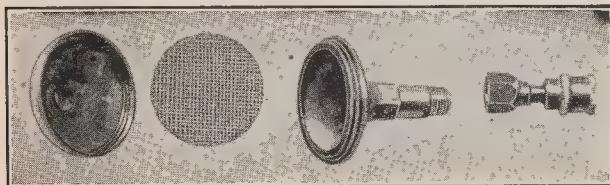
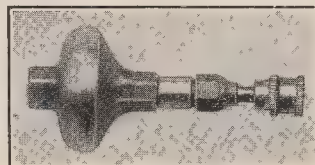

Fig. 227
Fig. 226
**The Strainer Attachment,—Fig. 226.** Here we show a very valuable and important attachment for applying to the nozzles of our sprayer. It makes no difference what crops are being sprayed, the attachment is equally valuable as it strains all the solution and prevents the particles of dirt from stopping the flow. In Fig. 227, we show the strainer together with the nozzle, taken apart,—this gives a good idea of the fineness of the screen and how effective the attachment is in preventing the stoppage of the nozzle or nozzles. The device is perfectly simple and effective,—when ordering sprayer equipped with strainers add the letter "C" to the number, thus No. 102-C. **Price**, strainer only (without nozzle) each